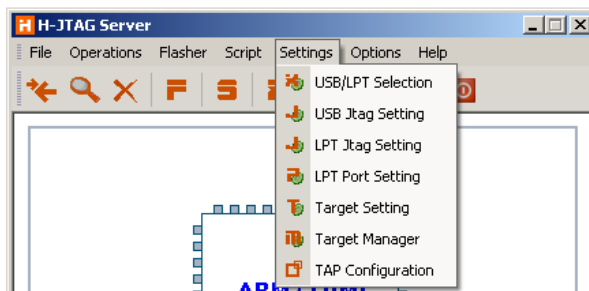

Fig 2-12 Settings Menu
- Settings Menu, as shown in Fig2-12.